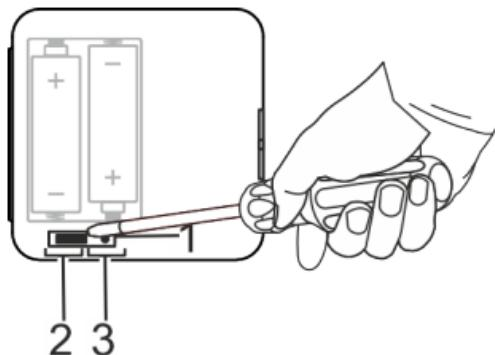

Fig. 8: Lifting up the jumper
2. Lift up the jumper (Fig. 8/1) in the housing cover using a flat-head screwdriver.
3. Insert the jumper (Fig. 8/1) in the 2-point position (Fig. 8/2).